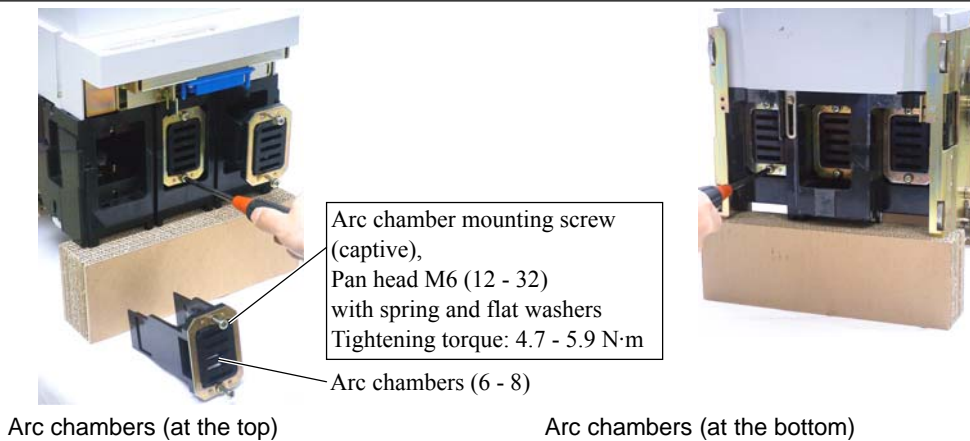

Fig. 76 Arc chamber mounting screws
- 3) Turn the arc chamber mounting screw eight or ten turns to loosen as shown in Fig. 76. (The arc chamber mounting screws are of captive type and cannot be removed from the arc chamber.)